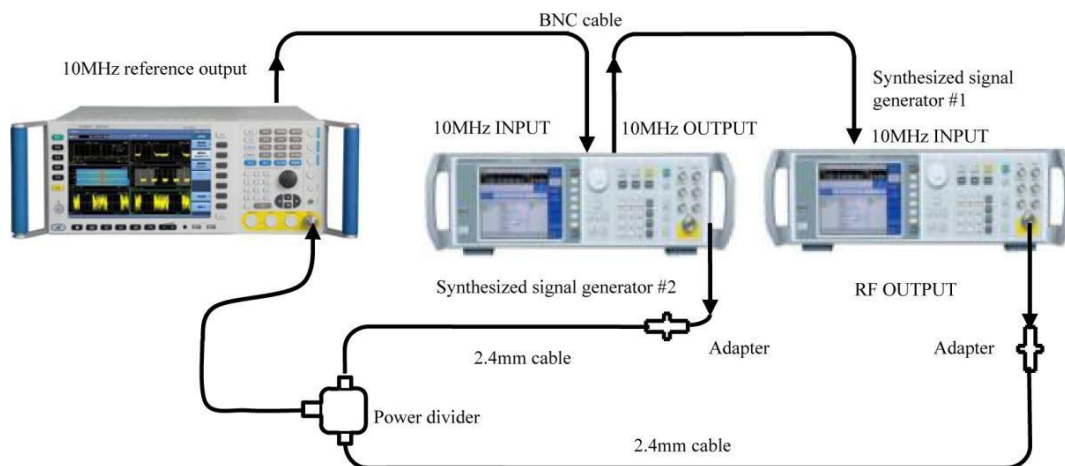

Fig. 8.5 Schematic diagram of frequency span accuracy test
- 1) Connect the instrument as shown in Fig. 8.5, reset the S3503 analyzer and set it with the frequency reference provided by two synthesized signal generators.